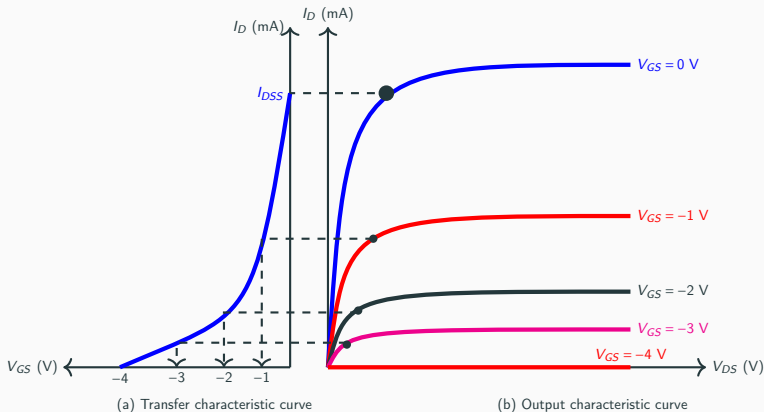

Figure 7: Derivation of transfer characteristics
The transfer curve, illustrated in Figure 7(a), can be derived from Equation (2) or obtained directly from the output characteristic plot shown in Figure 7(b).